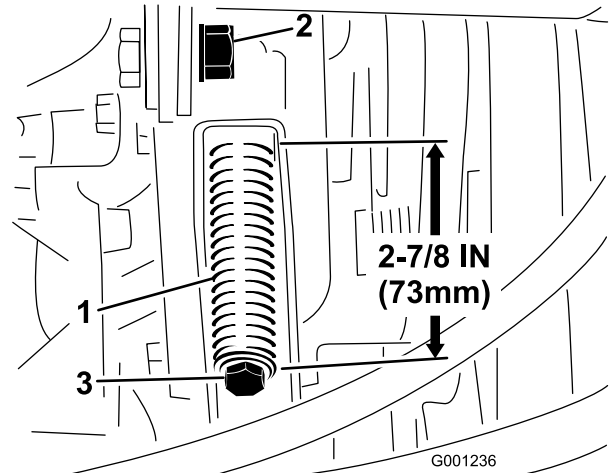

Figure 78
3. Loosen the tensioning-rod jam nut (Figure 78).
4. Use a 1/2-inch wrench to tighten or loosen the belt-tensioning spring (Figure 78). Adjust spring to a length of 273 mm (7/8 inch).
4. Using a 1/2-inch wrench, loosen the belt-tensioning spring (Figure 78) all the way.
6. Install the new PTO belt and tension the pulley spring to 73 mm (2-7/8 inches) (Figure 78).
7. Tighten the jam nut (Figure 78) and close the hood.